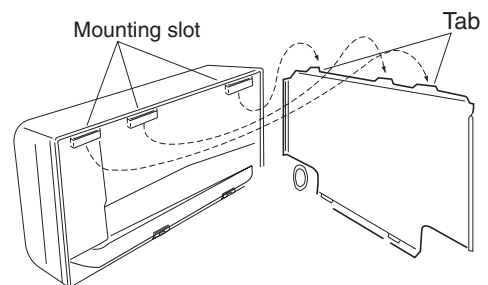

Fig. 1-76
- (a) Hang the 3 mounting slots of the unit on the upper tabs of the rear panel. (Fig. 1-76)